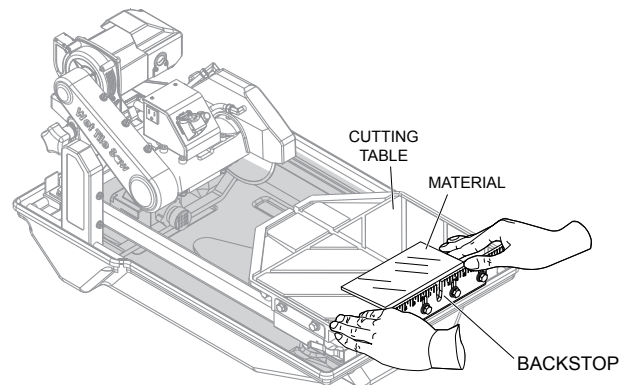

Figure 14. Material Placement
1. Place the material to be cut (Figure 14) on the cutting table against the backstop.